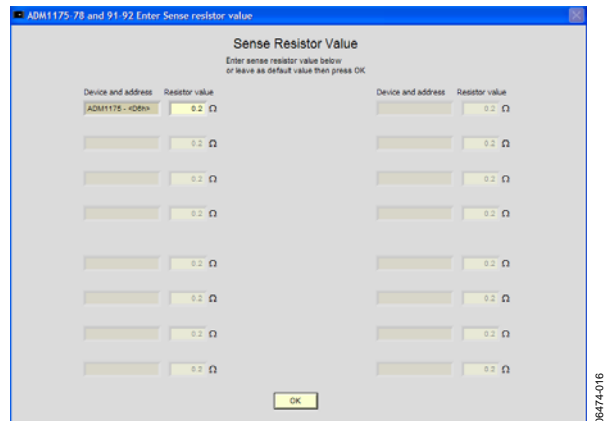

Figure 16. Sense Resistor Value Entry
3. Click **OK**. The **Enter Sense resistor value** window appears (see Figure 16).